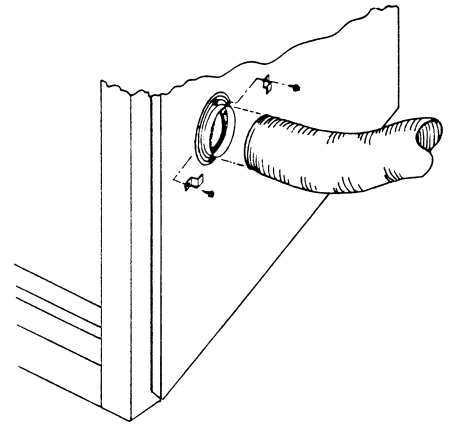

Figure 41
Step 3. With the two remaining sheet metal screws and the two clamp brackets supplied, secure the duct to the air gate assembly as shown in *Figure 41*.